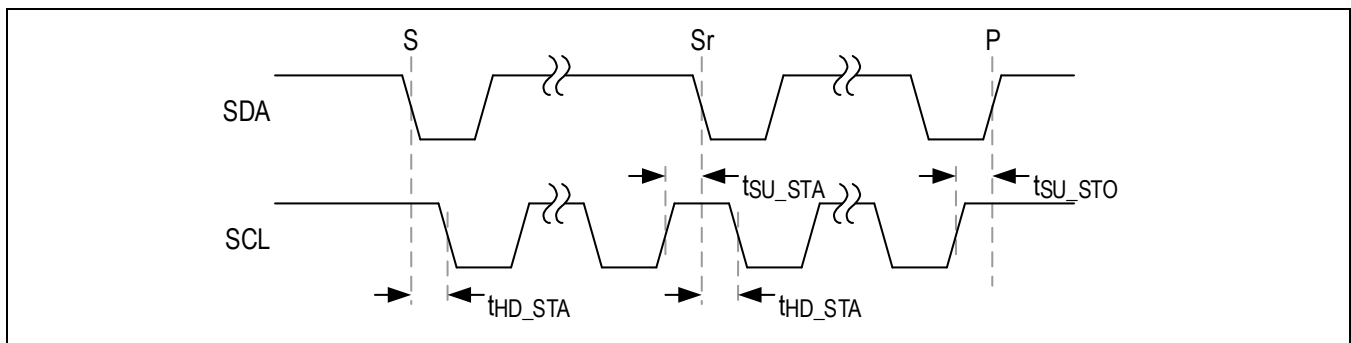

Figure 15. START and STOP Conditions
When the I²C serial interface is inactive, the SDA and SCL idle high. A controller device initiates communication by issuing a START condition (S). A START condition (S) is a high-to-low transition on the SDA while the SCL is high. A STOP condition (P) is a low-to-high transition on the SDA while the SCL is high. Figure 15 demonstrates the START and STOP conditions.